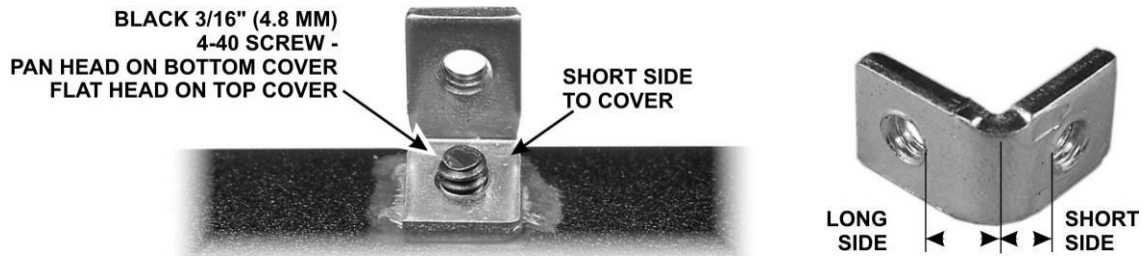

Figure 10. Installing Angle Brackets on the Covers.
At the mid-point along each side of the bottom and top covers is a screw hole. Mount the four angle brackets in these holes as shown in Figure 10. Be sure all six holes of each cover have clean metal on the *inside* surface. **Do not remove paint on the outside surface!** Be sure to use pan head screws on the bottom cover brackets and flat head screws on the top cover brackets. The holes in the top cover are counter sunk for the flat head screws. Check to ensure the brackets are oriented as shown. If you install the bracket backwards the case parts will not fit correctly.
- Inspect the inside surface of the side covers to ensure there is bare metal around each screw hold for good contact with the angle brackets or 2D fasteners. Be sure that you clean away paint on the inside surface, not the outside (see Figure 10, page 53). The screws holes are **not** countersunk on the inside surface of the panels. They are countersunk on the outside surface.
- Mount the side panels, using five 3/16" (4.8 mm) flat head screws in each panel. The center top hole will be filled when you install the top cover later. Although the panels are identical, they only fit one way so the holes align with the fasteners. If a screw binds or does not line up properly, loosen the other screws holding the 2D fastener or the screw into the L- bracket so it can move slightly for better alignment. If a side panel seems pushed away from the bottom cover at the center, check the L-bracket carefully. The usual cause is an L-bracket installed incorrectly (see Figure 10).
Mount the top cover. Orient it with the notch to the rear. (The notch is to make the cover easy to remove with a fingernail or small tool if needed.) Secure the cover with six 3/16" (4.8 mm) flat head screws; four on the top and one through each side panel. If the angle brackets on the top cover do not fit properly, check the orientation of the L-bracket carefully. The usual cause is an L-bracket installed incorrectly (see Figure 10).
The top, bottom and sides are supported at the center by L-brackets (Figure 10 on page 53).